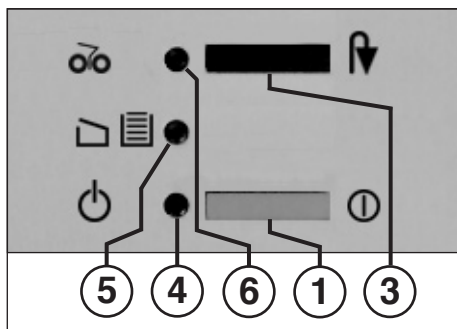

fig. 1
- 1 = Pushbutton switch (fig. 1) "Ready"/ "Off" / "Stop"**
- 3 = Pushbutton switch „reverse“ (fig. 1)**
- 4 = Pilot lamp „ready“ (fig. 1)**
- 5 = Pilot lamp „receptacle full“ / „door open“ (fig. 1)**
- 6 = Pilot lamp „paper jam“ (fig. 1)**
- Turn machine on with pushbutton switch (1) (fig. 1). Pilot lamp lights up (4) (fig. 1).
When the collecting bag is full, the machine turns off automatically. The pilot lamp (5) (fig. 1) lights up. Empty the collecting bag as follows:
- Move back the sliding frame with the collecting bag and close door. The pilot lamp (5) (fig. 1) goes off.
Please make sure that the shredder is switched off over night (pushbutton switch (1) (fig. 1).